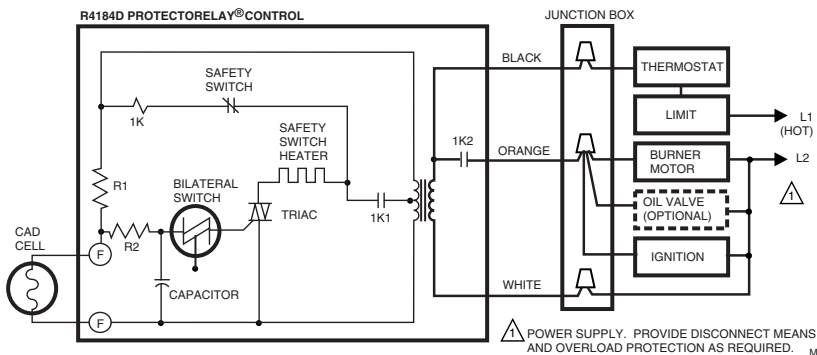

Fig. 3. Typical hookup for R4184D.
- 2 Make the line voltage connections as shown in Fig. 3 through 9.
- R4184D—connect the cad cell leads to the F-F terminals. See Fig. 3.